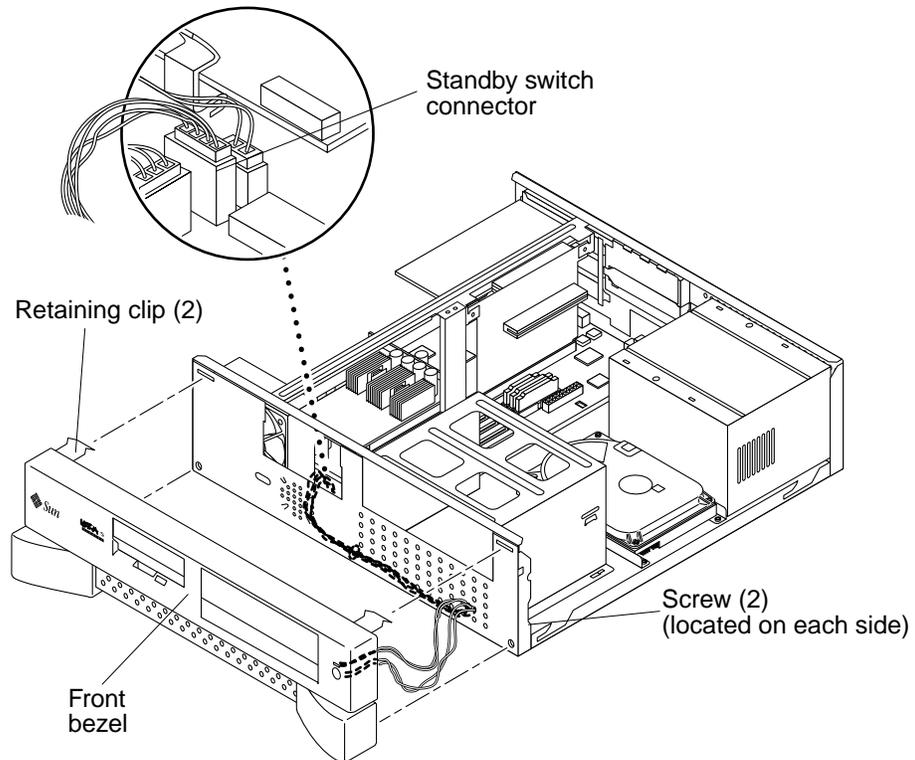

FIGURE 6-8 Removing and Replacing the Front Bezel
2. Remove the front bezel as follows (FIGURE 6-8):
1. Replace the front bezel as follows (FIGURE 6-8):